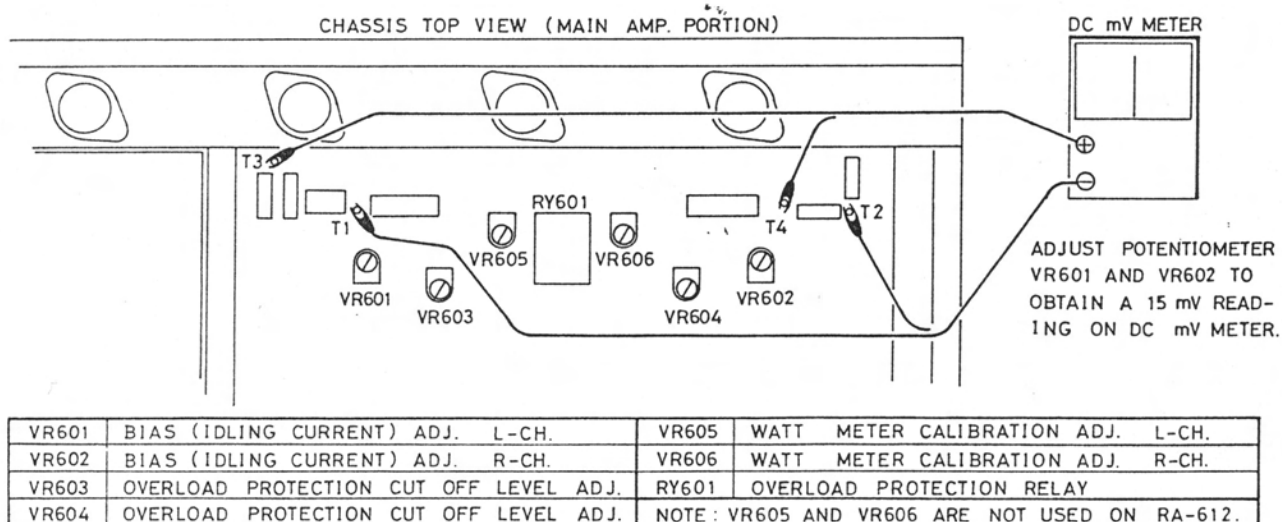

Figure 1. Bias (Idling Current) Adjustment Hook-up
2. Adjust the potentiometer VR601 to obtain a 15mV reading on the DC milli-volt meter (see Figure 1.).